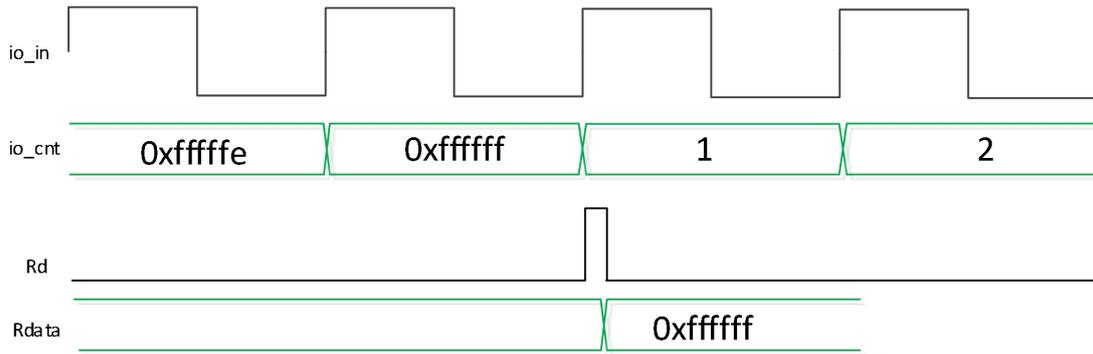

Figure 13 Overflow and read at the same time (rising edge counting)
- An overflow occurs at the same time as a read, at which point the read goes to 0xfffff while the count value changes to 1. `io_cnt = 1` when an overflow occurs at the same time as a read clear. as shown in Figure 13.